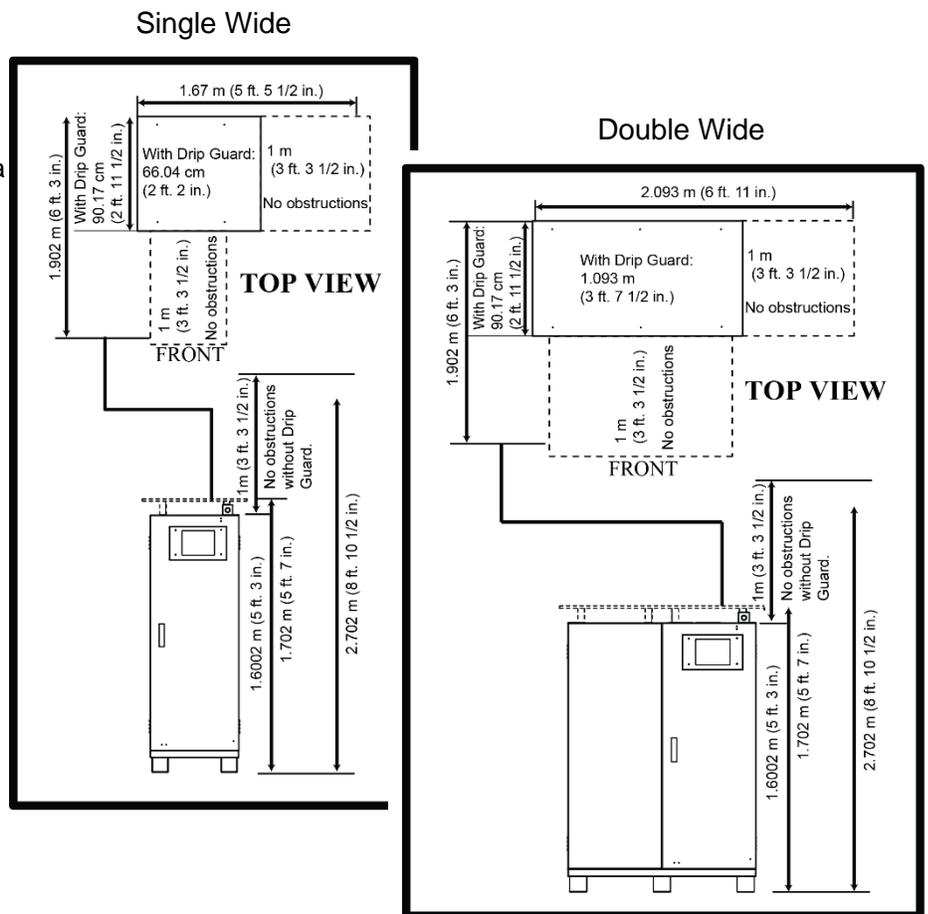

Figure 4: ATS Clearances
The flowchart display is a power flow topology equipped with a bank of eight (8) LED lights (**Figure 4**). These lights provide an easy-to-read status update for the system.